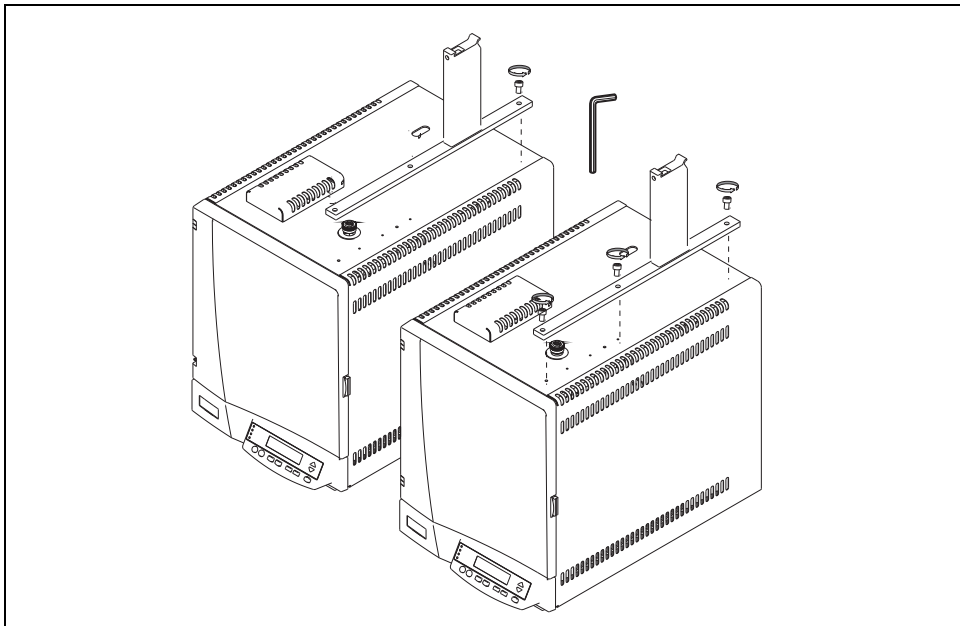

Figure 3-10. Sampler Supports Installation on Two FOCUS GCs
5. Guide the fixing screws into the corresponding fixing holes, then tighten the fixing screws as shown in Figure 3-10.